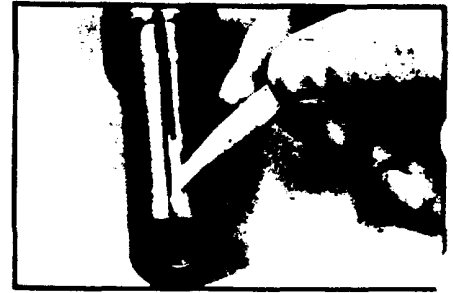

Figure 41
10. Using chalk or marking pencil, extend the timing mark that is on the end of coupling shaft (11) up the side of the coupling shaft so that the timing mark location will be visible for alignment purposes when the coupling shaft is assembled into the housing held in the vise. SEE FIGURE 41.